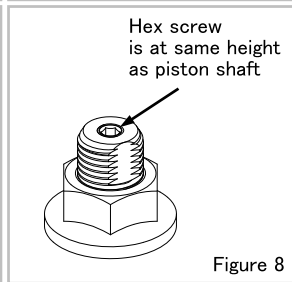

Figure 8
- 4) Carefully screw in the hex screw contained in the KIT until the top of hex screw is flush with the top of the piston shaft. (Figure 8)